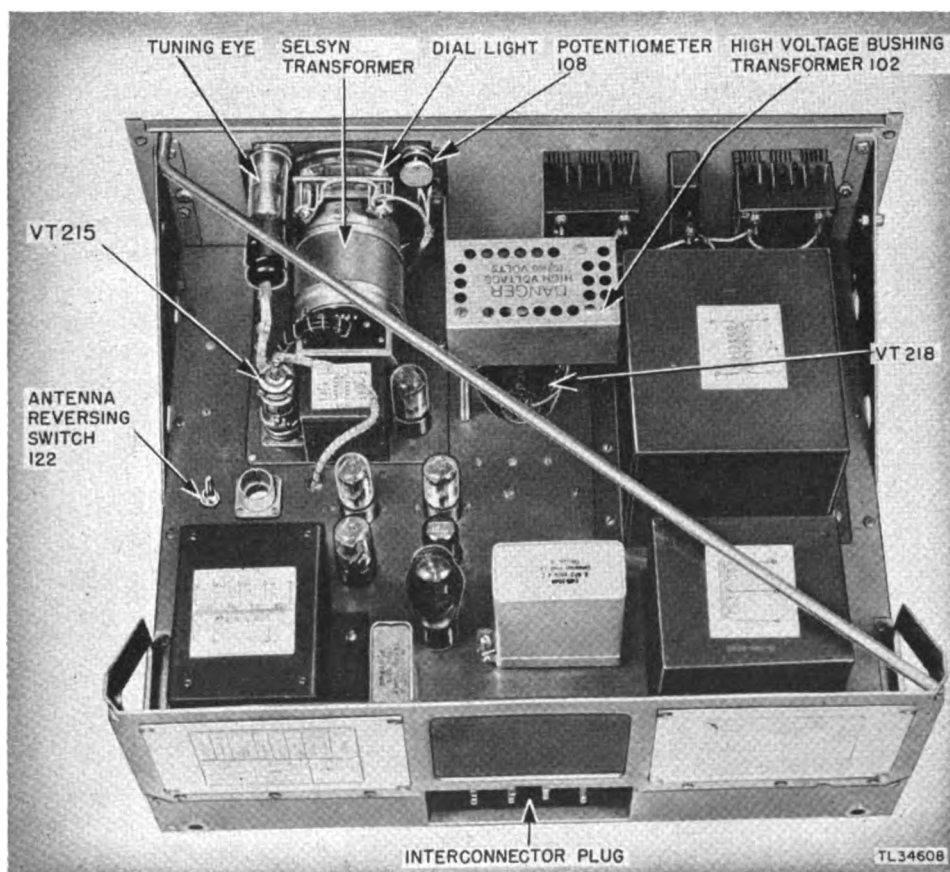

Figure 13. Indicator chassis—top view.
(2) The various parts within the chassis of the indicator unit are now accessible for maintenance.
a. LOCATION (fig. 13).
(1) The tube envelopes for cleanliness. Tuning eye tube may be removed from clips for cleaning. Check clips for cleanliness.
(2) Check clamps of VT-215 for tightness of mounting.
(3) Tube VT-218 for—
(4) The cases of the capacitors for general condition.
(5) The antenna reversing switch 122 (fig. 13) for mechanical operation and tightness.
(6) The terminal strips for—
- (7) The interconnector plug block 111 and 112 (fig. 13) for—
- (8) The three circuit breakers for—
- (9) The transformer 102 for—